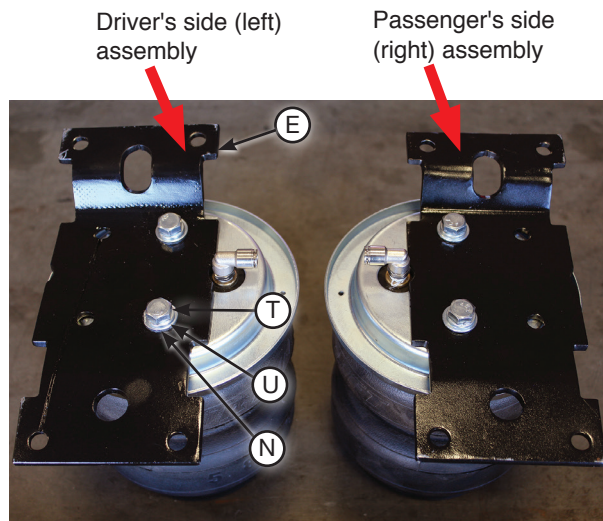

fig. D.7
2. Set the upper air spring bracket (E) onto the top of the air spring using one set of holes with the 3/8"-24 x 7/8" hex cap screw (T), 3/8" lock washer (U) and 3/8" flat washer (N) (Fig D.7). Install the remaining bellows bracket onto the remaining air spring, using the opposite holes from those that were previously used. This makes the bellows assemblies into left- and right-hand units. Torque the hardware to no more than 20 lb.-ft. (27Nm).